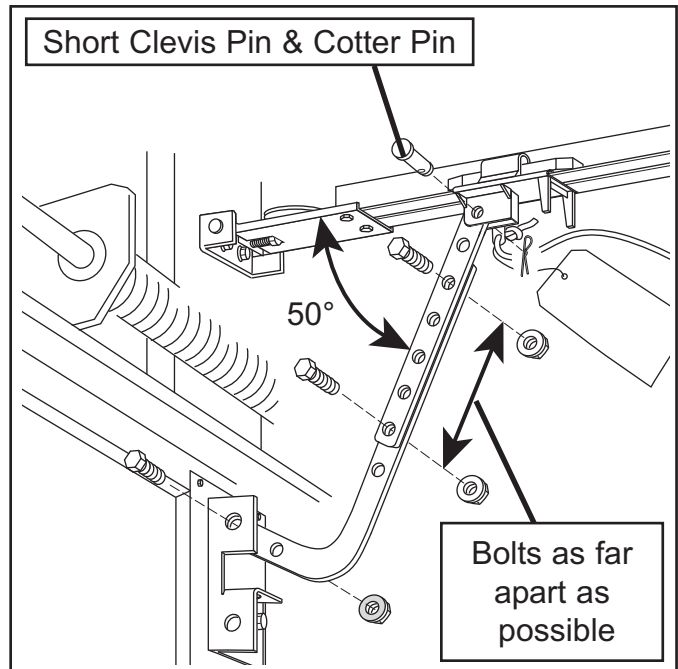

FIG. 2-9 Attaching door arms.
- Fasten short branch of curved door arm to door bracket using bolt and locking nut (**Fig. 2-9**).
- Fasten straight arm to carriage using a short clevis pin and cotter pin (**Fig. 2-9**).
- With the arms arranged in this position, fasten arms together using bolts and nuts spaced as far apart as possible (**Fig. 2-9**).